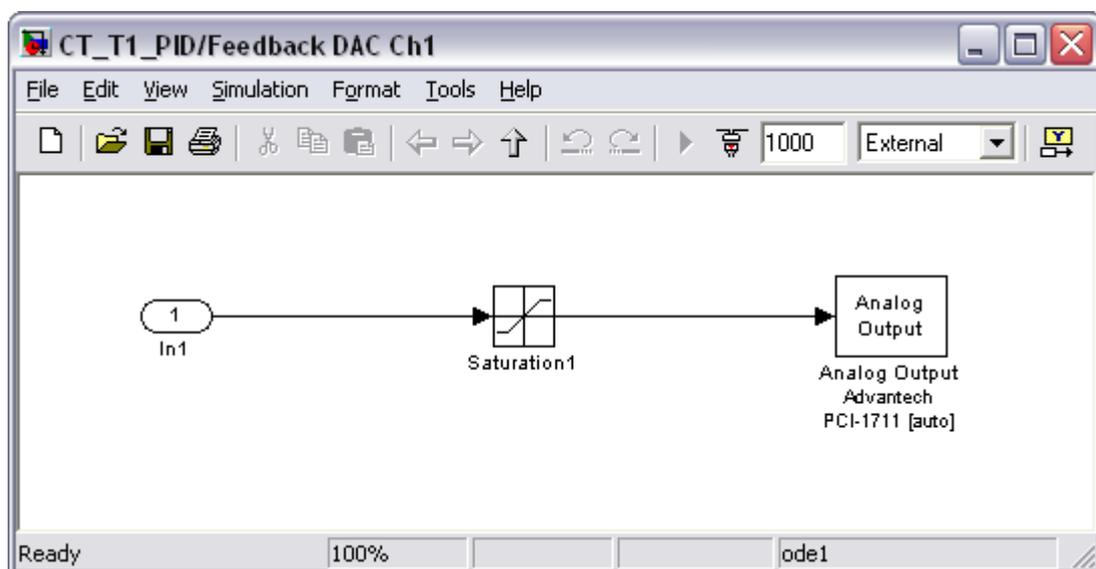
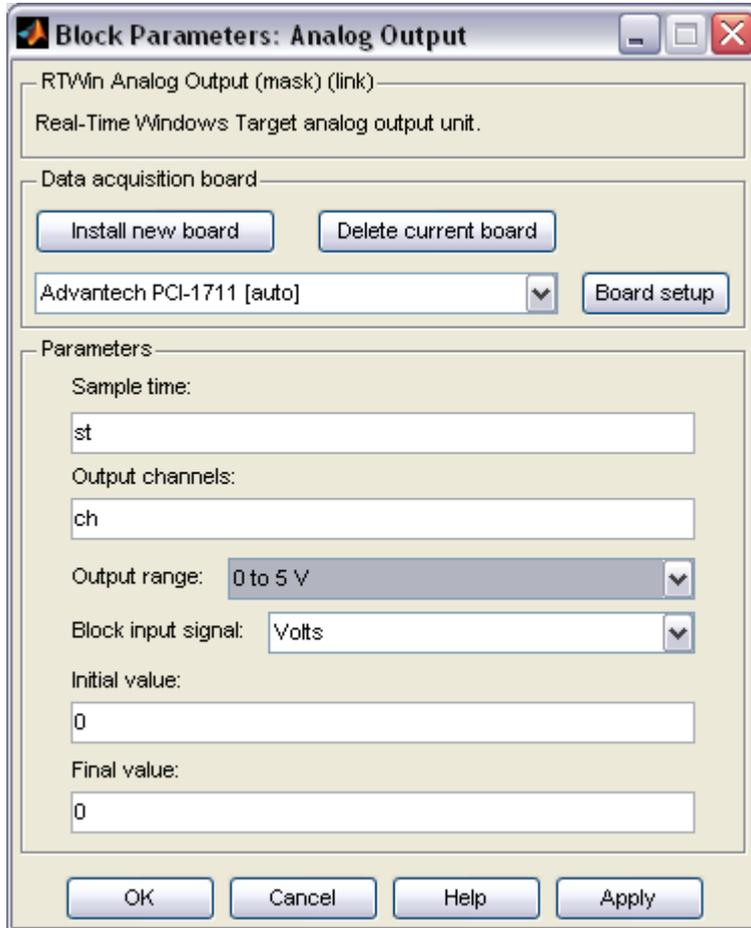

Figure 39 Feedback DAC Block –under mask
Figure 40 Feedback DAC Block – board setup
- Choose “*Look under Mask*” to view all of the subsystems (Figure 39). Before any experiments are run the PCI-1711 card has to be registered and set up. Double click on the Analog Output block and register the PCI-1711 card in Matlab environment (Figure 40).